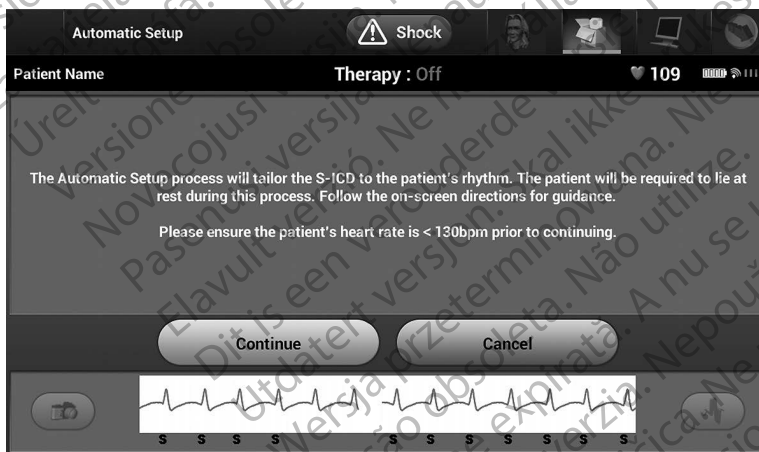

Figure 12: Automatic Setup screen
3. Select the Automatic Setup icon in the Navigation Bar. The Automatic Setup screen appears (Figure 12).